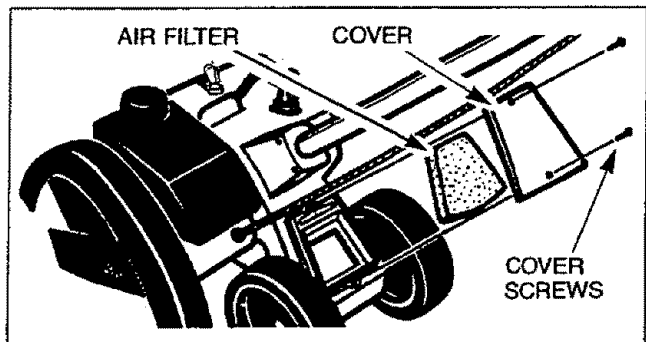

Figure 12
CLEAN AIR FILTER (Fig. 12)
- Remove the two screws and the air filter cover from the engine. Figure 12.